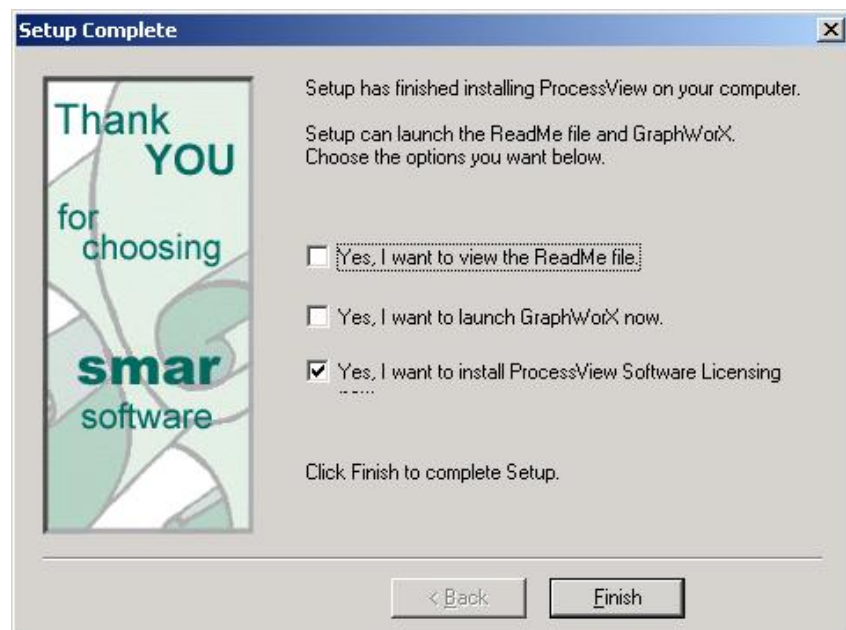

Figure 2.8. Installation Complete
12. Click the **Finish** button, as shown in **Figure 2.8**.